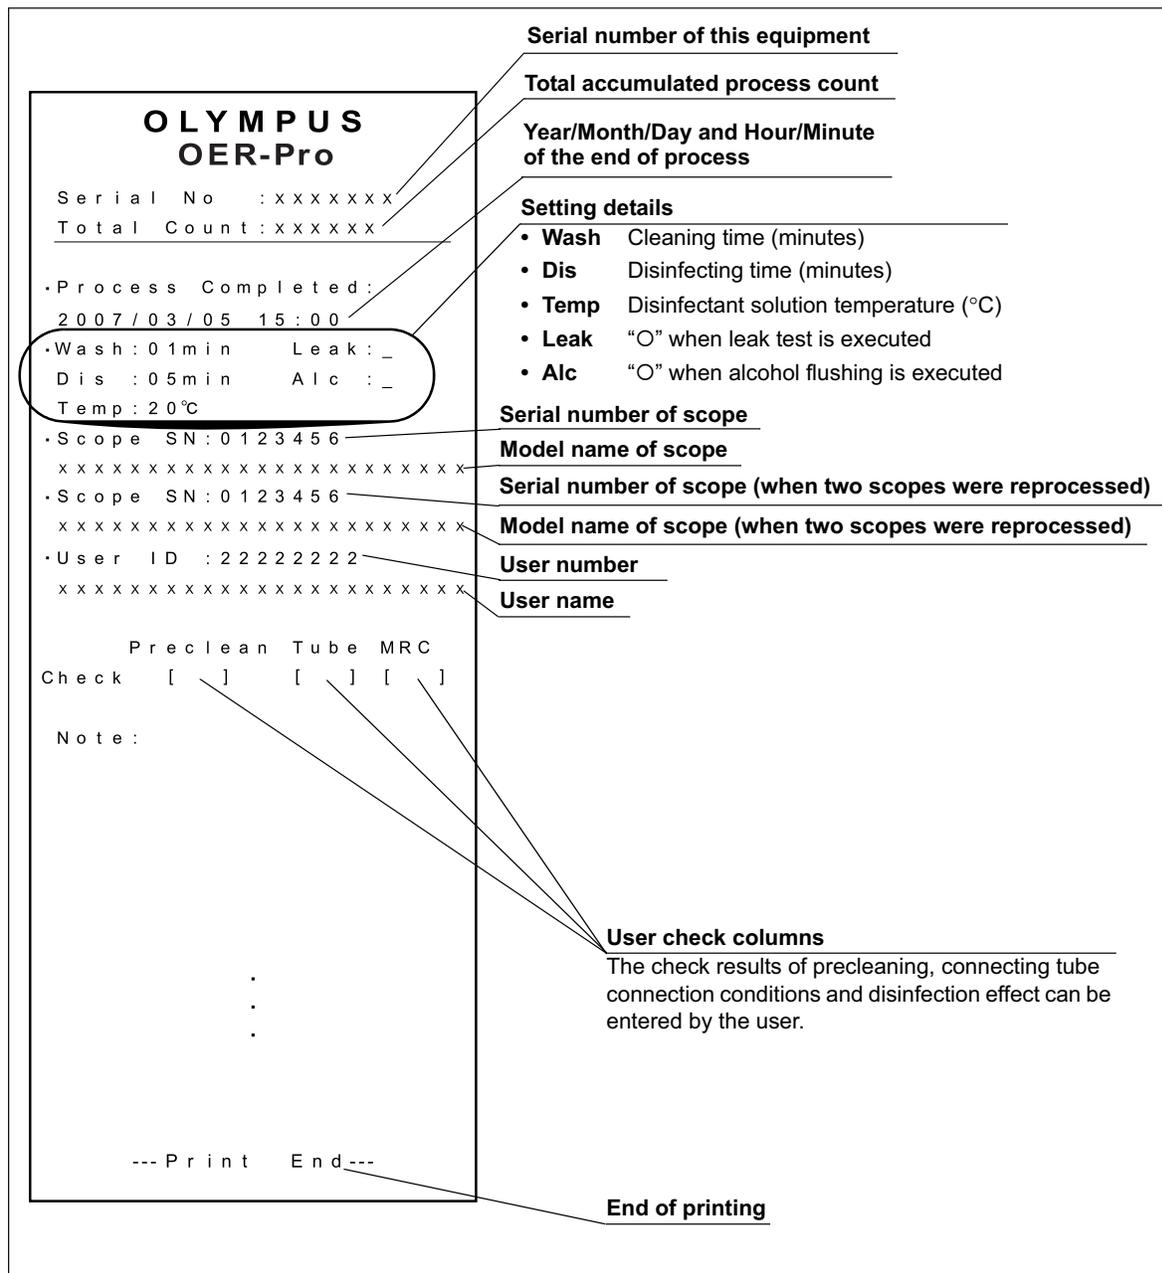

Figure 4.48
- For the printed information (see Figure 4.48).